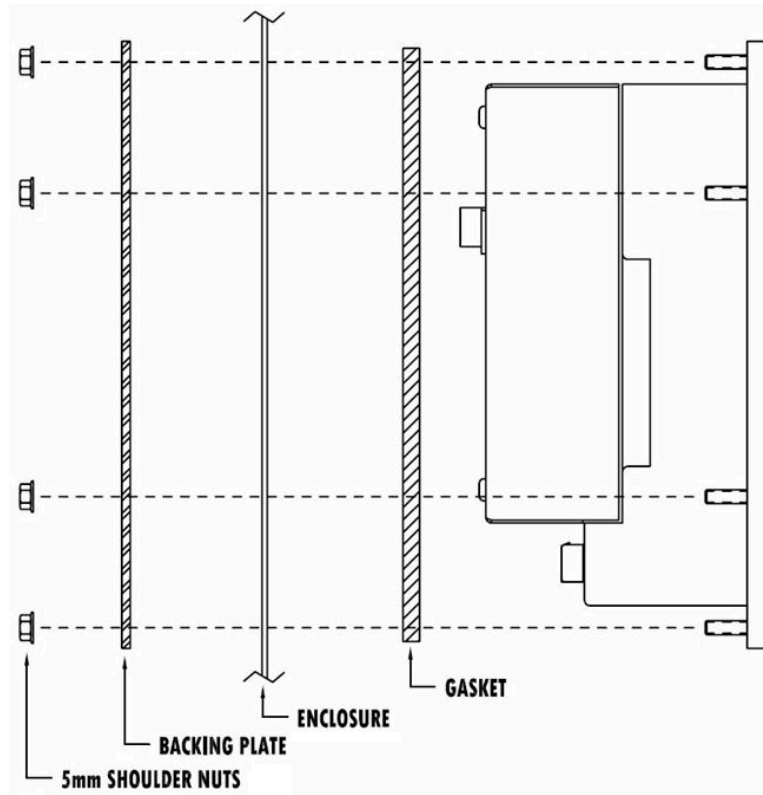

Figure 2-7: Panel Mounting, Side View
3. Place the terminal through the cutout from the front and secure by fitting the backing plate over the back of the terminal, then installing and tightening the eight nuts until secure. Figure 2-7 shows a side view of a panel installation.